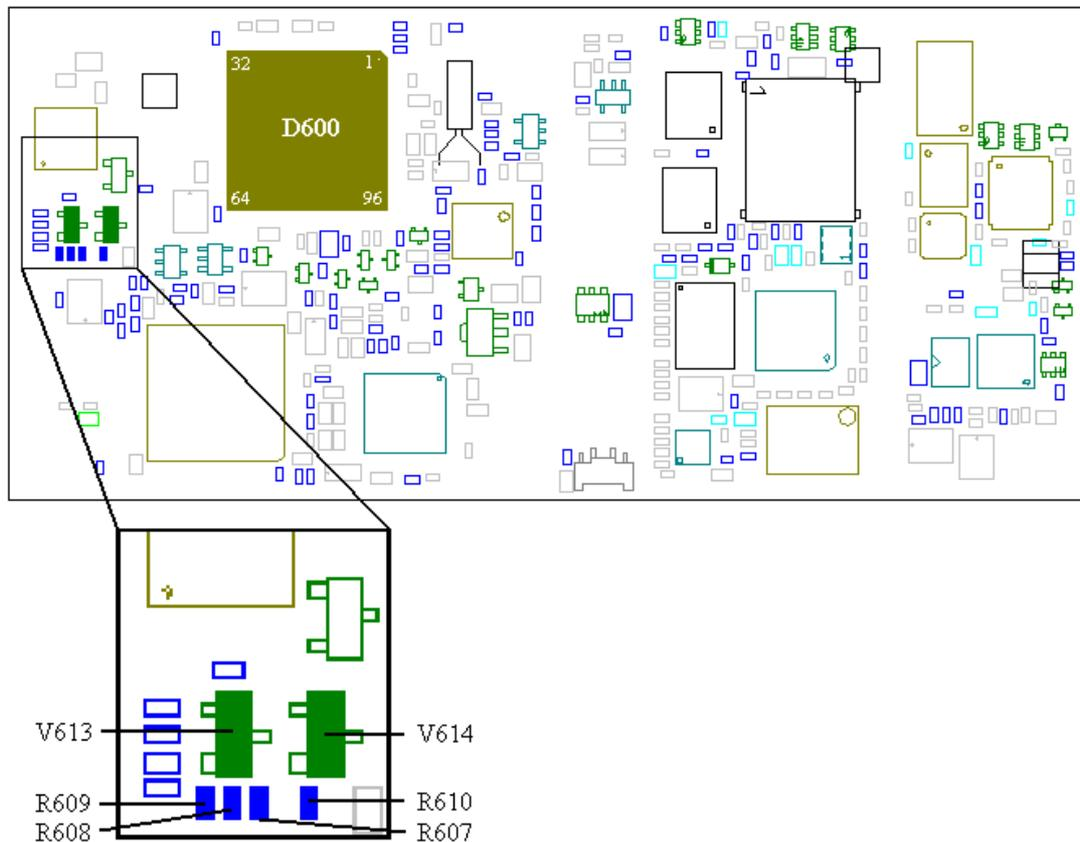

Fig. 9.2
- If the voltage is correct, replace V613 and R609 (class A, fig. 9.2).
- If the voltage is correct, replace V614 and R610 (class A, fig. 9.2).
* If it's correct, replace R607 and R608 (class A, fig. 9.2).
* If the soldering is correct, replace D600 (class B, fig. 9.2).
- * If it's correct, replace D600 (class B, fig. 9.2).